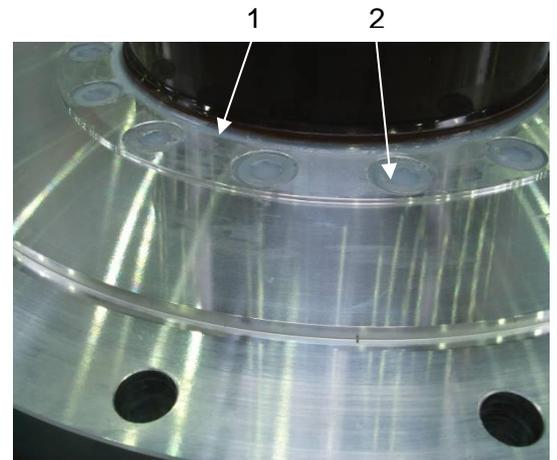

Fig.21
In the flange area (Fig. 21) all gaps, grooves (1) and screw sinks (2) are sealed with sealing material by the manufacturer. Here only remainders of oil have to be removed with a solvent (e.g. Ethylacetat).